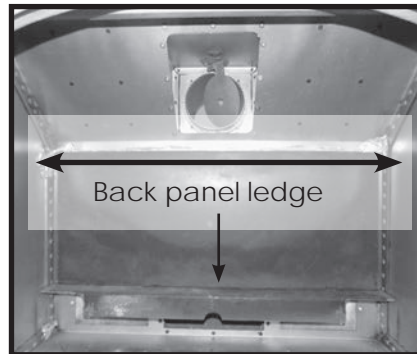

Fig. 82: Side Panels location
2. Insert side panels so that they are sitting on top of the lower back panel ledge as shown in Fig.: 82.